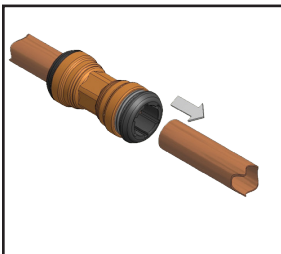

FIGURE 5
4. Screw the end cap onto the fitting body until it is hand tight, pull tube straight out (Fig. 5). If the tube does not remove easily, try tightening the end cap slightly. Excessive tightening is not necessary to spread the teeth of the grab ring.